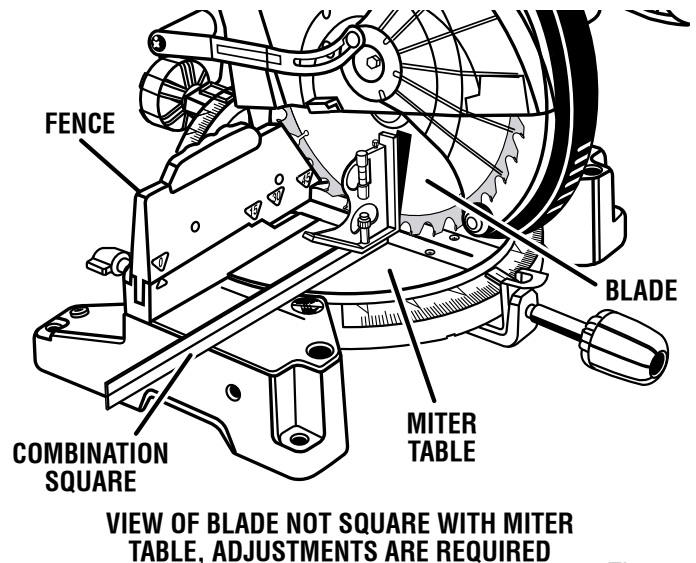

Fig. 29
- If the top or bottom of the blade angles away from the square as shown in figure 29, adjustments are needed.